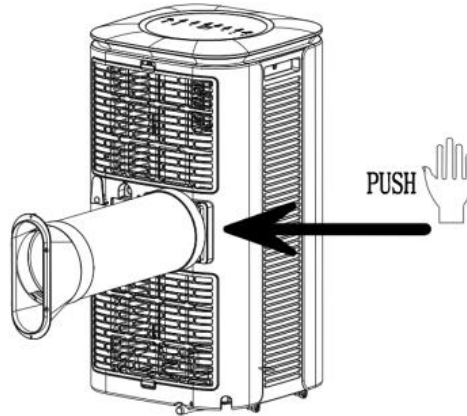

Figure 1
### 1.1 Install the heat pipe assembly (as shown in Fig.1)
- 2) insert the heat pipe assembly (the end of the exhaust joint) into the back panel vent slot (push to the left) and complete the assembly (as shown in figure 1).